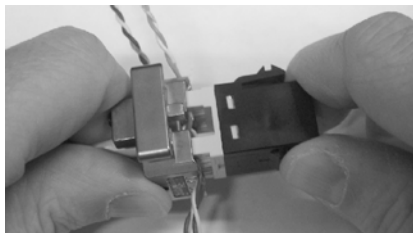

Figure 8
14. Orient the jack connector so that the color coding on the jack connector mates with proper conductor of lacing fixture. Insert a jack connector into the lacing fixture until it is engaged by approximately 4mm [.160 in.]. See Figure 8.